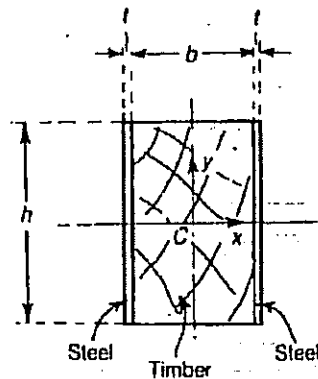

Figure Q7. Composite beam
- Figure Q7 shows the arrangement of a composite beam.